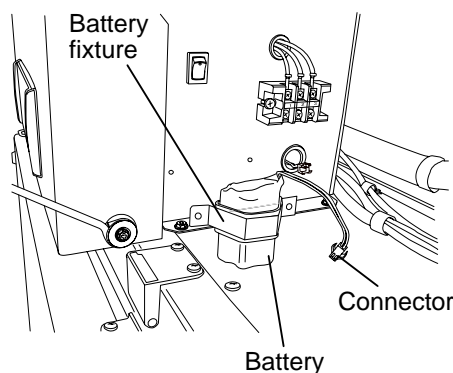

Fig. 4
4. Disconnect the connector and take out the battery. (Fig. 4)
5. Remove 2 rubber caps (outside and inside) on the access port on the back of the freezer and also remove the insulation in the port. Fig. 4